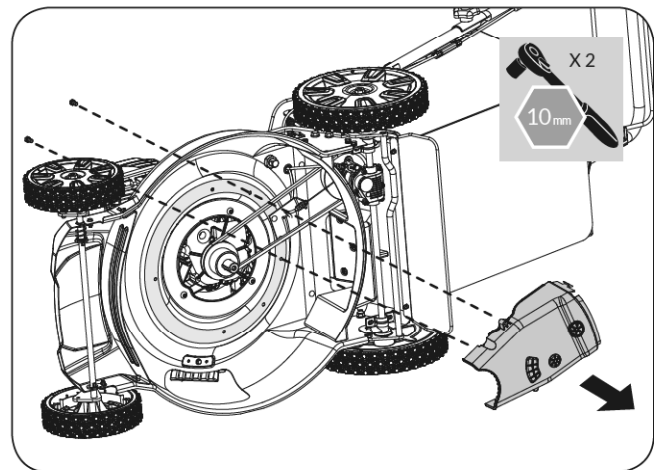

Figure 26
2. Remove the belt cover. (See **Figure 26**)